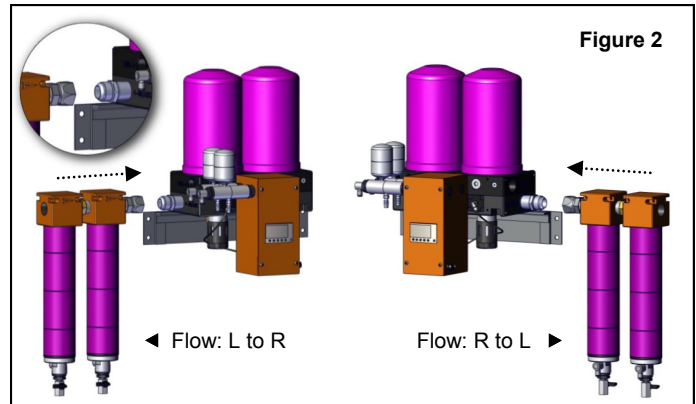

Figure 2
4. Using an adjustable or 1-3/8" wrench, connect the supplied FEMALE JIC fitting to the outlet port of the Tsunami pre-filter assembly. Use appropriate thread sealant. *Figure 2*
6. Using the appropriate thread sealant, install the MALE JIC connector to either the left or right INLET / AUX port of the dryer. *Figure 2*